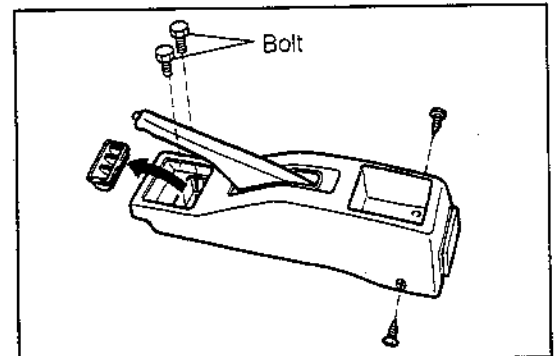

Fig. 8-177
1. Remove the console box. (See Fig. 8-177.)